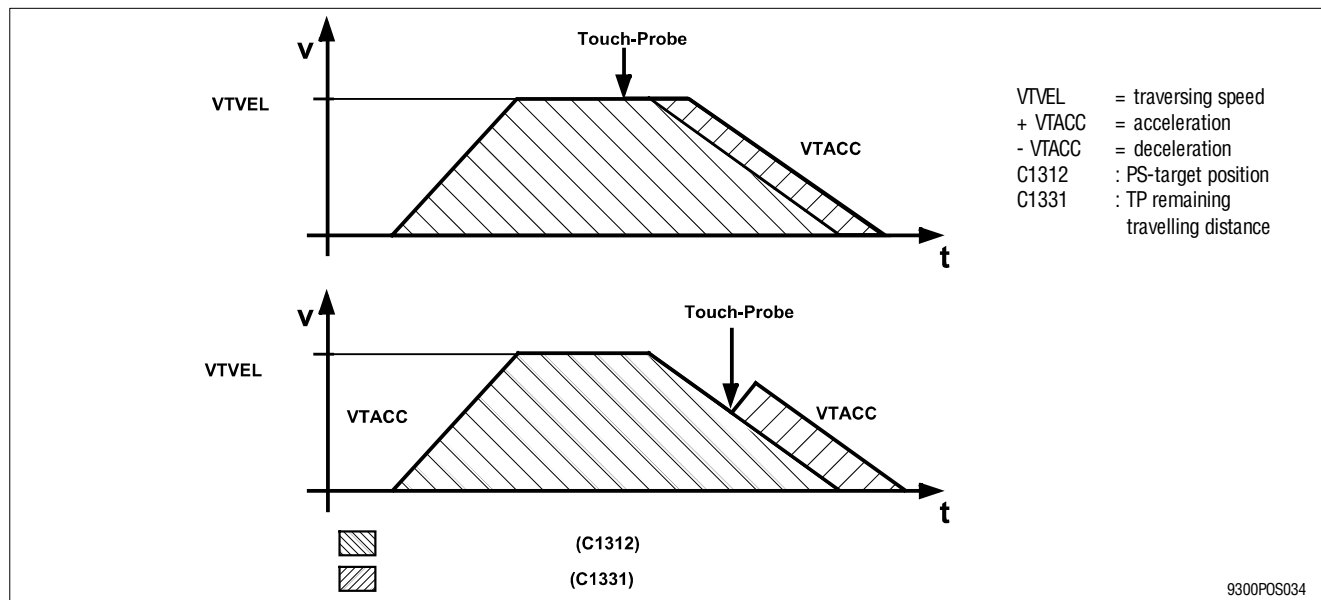

Fig. 7-37 Speed profile of a TP positioning
- The TP input can be enabled for the entire TP positioning or for parts of it. Position target, TP remaining travelling distance and TP window determine the restricted area (see figure 7-37).